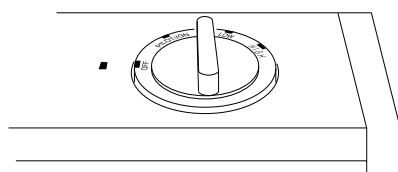

Figure 15 - Control Knob In The OFF Position
5. Press in and turn control knob counterclockwise to PILOT/IGN position. Press in control knob for five(5) seconds (see Figure 15).